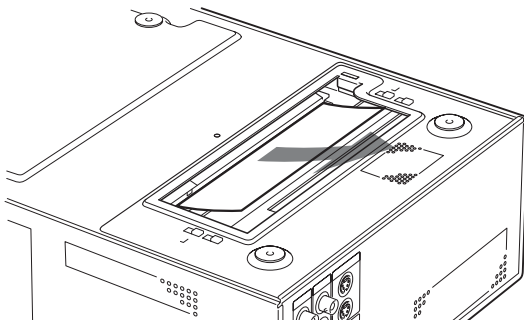

Figure 4.7
- 5** Remove the jammed paper slowly (see Figure 4.7).